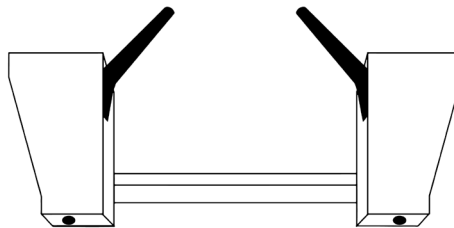

Figure 3.2a Quick Attach Mechanism - Levers Unlocked
1. Ensure the hydraulic lines are clear from the front side of the brush cutter's attachment plate and that the levers on the skid steer quick attach mechanism are in the unlocked position (see Figure 3.2a).